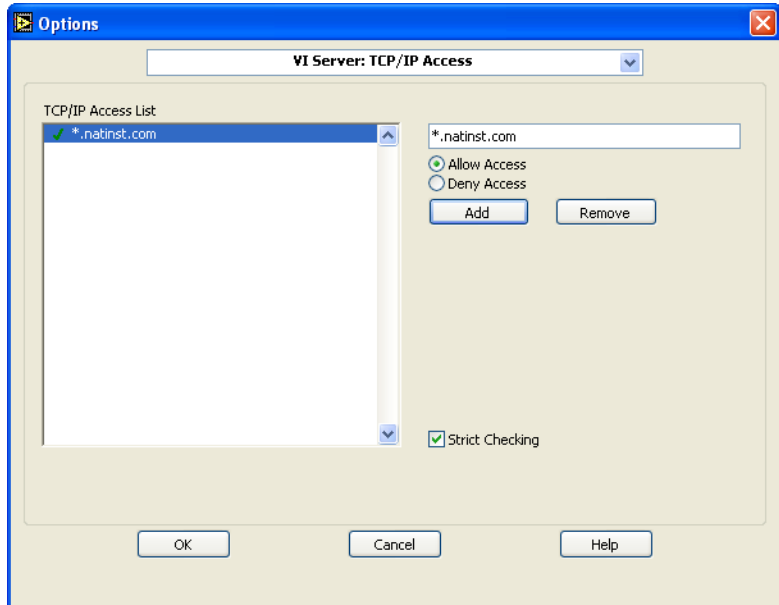

Figure A-3. VI Server: TCP/IP Access Property Page of the Options Dialog Box
2. Configure any computers that you want to allow access to the LabVIEW VI Server in the **VI Server: TCP/IP Access** property page of the Options dialog box, which is shown in Figure A-3.